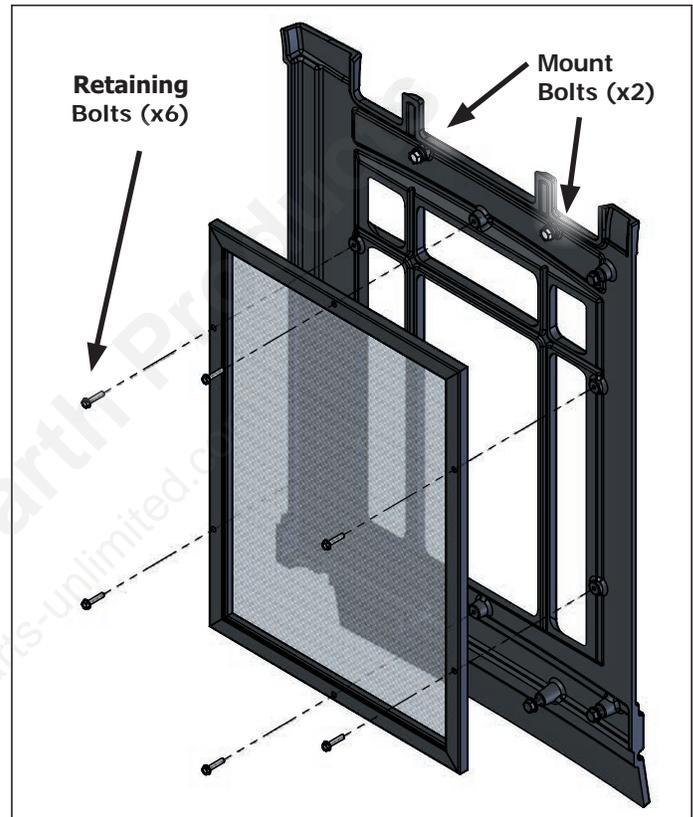

Figure 52. Safety Screen Removal - Side
Step 6: Remove the six (6) retaining bolts (Figure 52) using a 1/4" socket and remove the damaged screen while noting the orientation. Install the new screen (50-2344) by simply re-installing the retaining bolts.
Step 7: Re-install the cast side and tighten the two (2) top mount bolts. Re-install the cast door and top to finish.